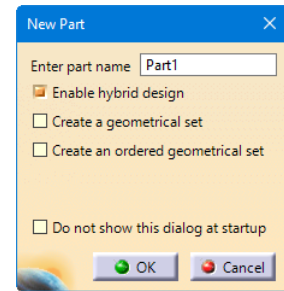

Figure 2-61 The *New Part* dialog box
- Next, choose **Start > Mechanical Design > Part Design** from the menu bar; the **New Part** dialog box is displayed, as shown in Figure 2-61.